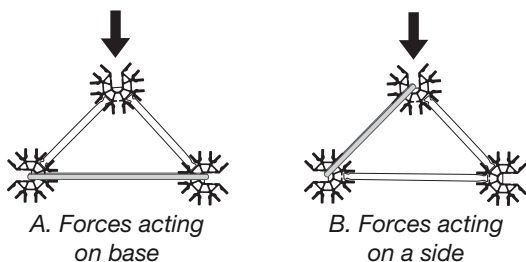

Fig. 2: External forces acting on triangles
1. Replace the base of your triangle (A) with a rubber band and apply a vertical force as shown in Fig. 2.
2. Replace a side (B) of your triangle with a rubber band and apply a vertical force as shown in Fig. 2.